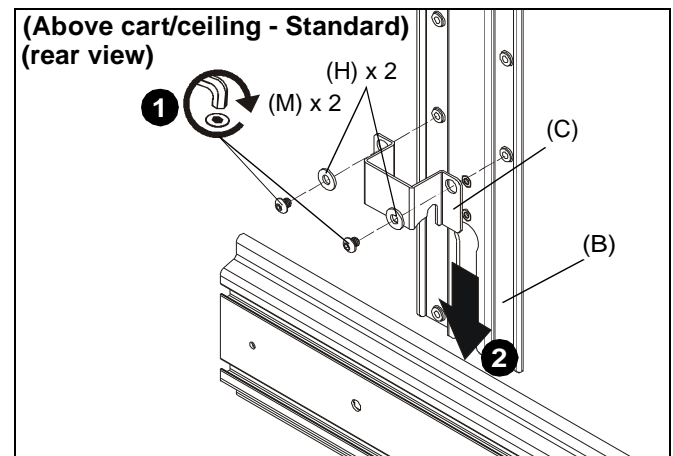

Figure 20
- Use two 1/4-20 x 1/4" button head cap screws (M) and two large washers (H) to secure shelf bracket (C) to main bracket (B). (See Figure 20)
- Slide main bracket (B) onto front of cart/ceiling mount head assembly until shelf bracket (C) rests on top of head assembly. (See Figure 20)